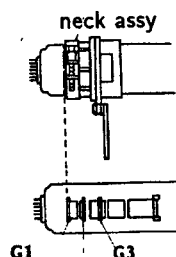

Fig.2
- Position neck assy as shown in Fig.2.